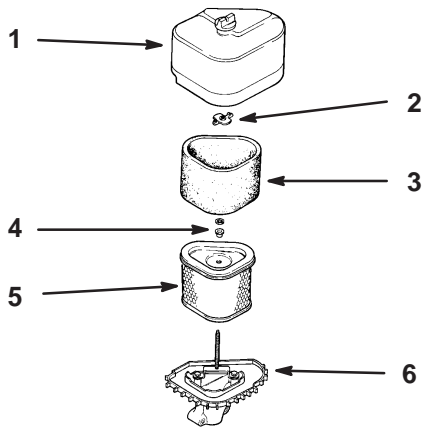

Figure 26
2. Clean around the air cleaner to prevent dirt from getting into the engine and causing damage. Unscrew the cover nut and remove the air cleaner cover (Fig. 26).
3. Remove the air cleaner assembly (Fig. 26).
4. Carefully slide the foam element off the paper element (Fig. 26).
1. Carefully slide the foam element onto the paper air cleaner element (Fig. 26).
2. Place the air cleaner assembly onto the air cleaner base (Fig. 26).
3. Install the air cleaner cover and secure with cover nuts (Fig. 26).